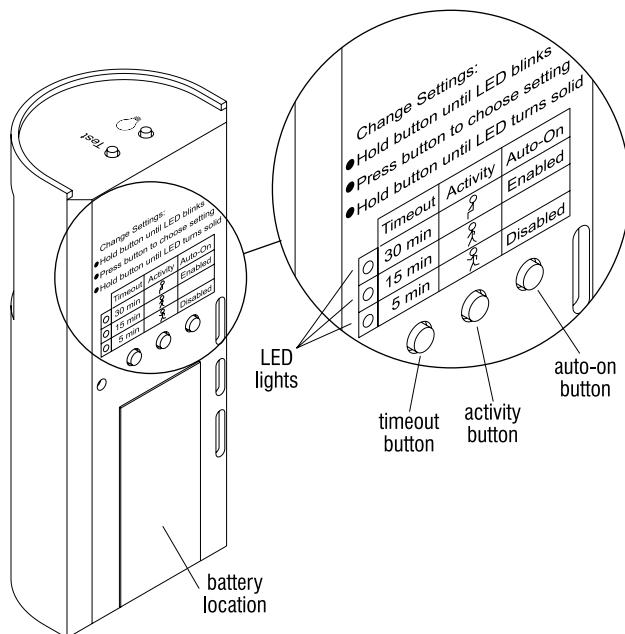

Figure 8 - Occupancy Sensor Back
1. Before pairing the occupancy sensor to the fans wireless controller, the battery must be installed. Then, the sensor must be placed into 1-minute mode, with "Auto On" enabled. To do this, locate the three grey buttons on the back of the occupancy sensor. Set "Timeout" to 1 minute by pressing and holding the "Timeout" button until all three LED indicators blink. Then release the button, and press and hold the same button again until all three LED indicator lights are on steady, then release the button. To confirm that 1-minute mode has been set, press and release the "Timeout" button. All three LED indicator lights will light-up solid (Figure 8).
2. Next, using instructions on the back of the occupancy sensor, set "Activity" to the sitting icon (most sensitive) which will allow lights to stay on with very little motion. Then, set "Auto On" to enabled. This allows the lights to turn on with the fans when occupants enter the room. When an occupant vacates, lights and fans turn off at designated "Timeout" setting. If "Auto On" is disabled, the lights will not turn on with the fans upon entering the room. The lights will need to be manually turned on with the remote switch. Both fans and lights will turn off after vacating the space, with either setting (Figure 8).
11. Once pairing is complete and confirmed, reference the occupancy sensor's manufacturer's instructions and set the desired Timeout and Auto-On settings on the back of the occupancy sensor. Then re-install the occupancy sensor onto the mounting bracket in the room (Figure 8).